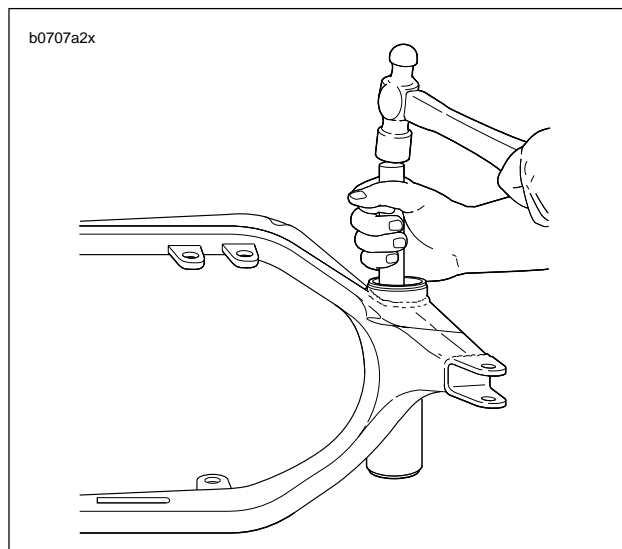

Figure 2-76. Removing Roller Bearing Cups
3. See Figure 2-76. Carefully press roller bearing cups from swingarm using STEERING HEAD BEARING RACE REMOVER (Part No. HD-39301A) and UNIVERSAL DRIVER HANDLE (Part No. HD-33416).